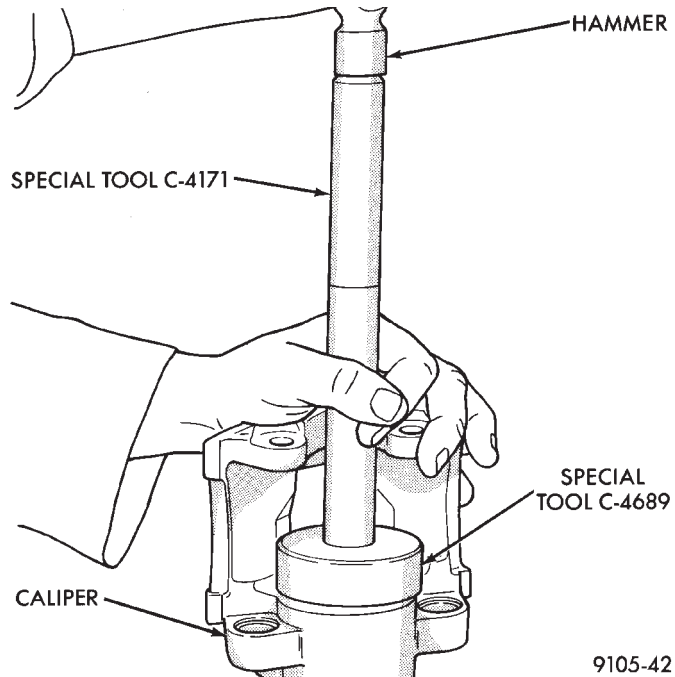

Fig. 165 Installing Dust Boot In Caliper Counterbore
(6) Position dust boot into the counterbore of the caliper assembly piston bore.
(7) Using a hammer and Installer Piston Caliper Boot, Special Tool C-4689 and Handle, Special Tool C-4171, drive boot into counterbore of the caliper (Fig. 165).